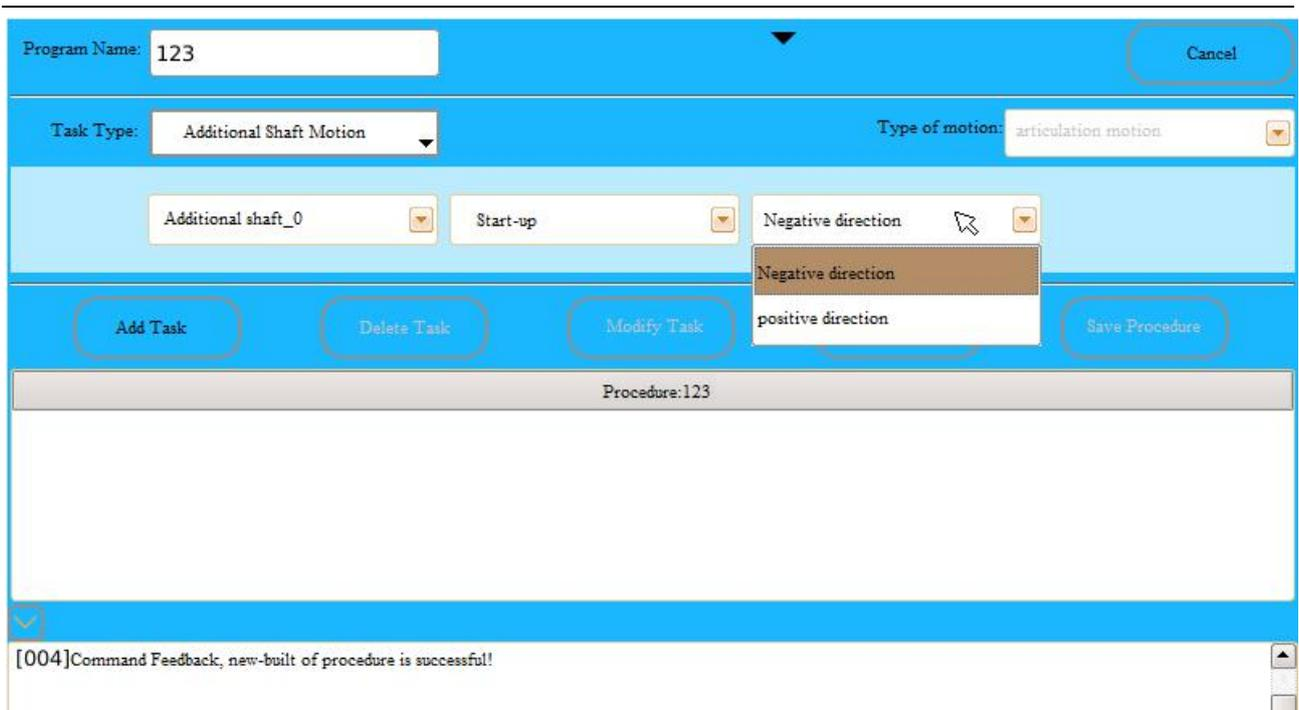

Fig. 3.8 “Additional Shaft Motion” Task Type Setting
When the “Additional shaft” is set to the “Speed” mode, the “additional shaft” sequence number, the “Start/Stop” additional shaft motion and the “Positive/Negative” rotation direction can be set by the programming instruction “Additional shaft motion” during programming, as shown in Fig. 3.8.
(3) **“Additional shaft motion” task type** — When the additional shaft is set to “Speed mode”, the “Additional shaft” can be set “Start-up” and “Stop” through the “Additional shaft motion” task type, wherein the “Additional shaft_0” represents the J7 shaft, and the “Additional shaft 1” represents the J8 shaft; the “Positive direction” and the “Negative direction” rotation directions can be set when the additional shaft “start-up” is added, as shown in Fig. 3.8.